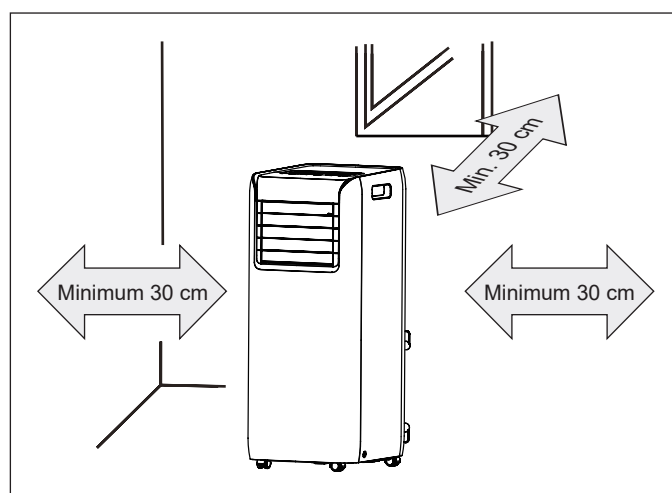

FIGURE 1
- Make sure the unit has sufficient clearance from walls and furniture (as seen in Figure 1).